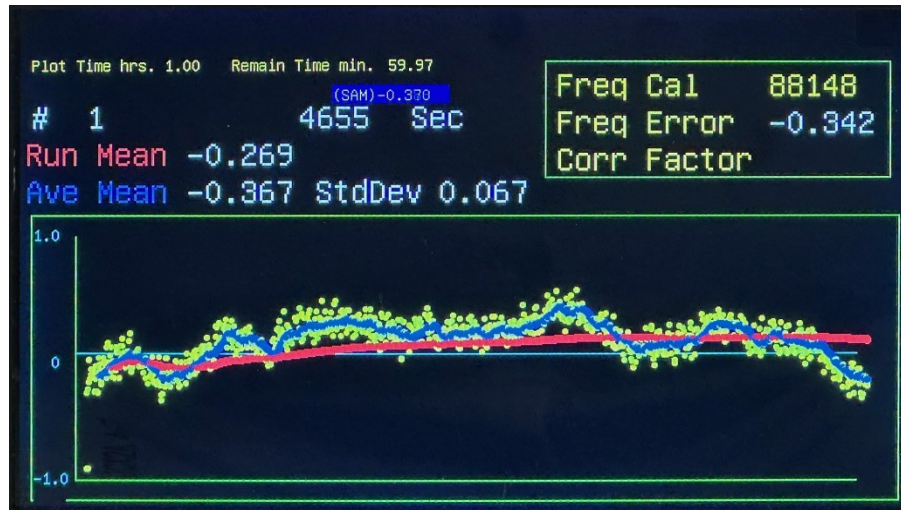

Figure 4 Crystal Frequency Error
- Using Figure 3 to Figure 4, as shown in Figure 3, the TXCO average mean over 9 hours was 0.034 Hz, compared to the crystal average mean of 0.367 over just 1.3 hours. Average Mean is computed using all of the samples, while the Running Mean is calculated using a running average over 20 samples.